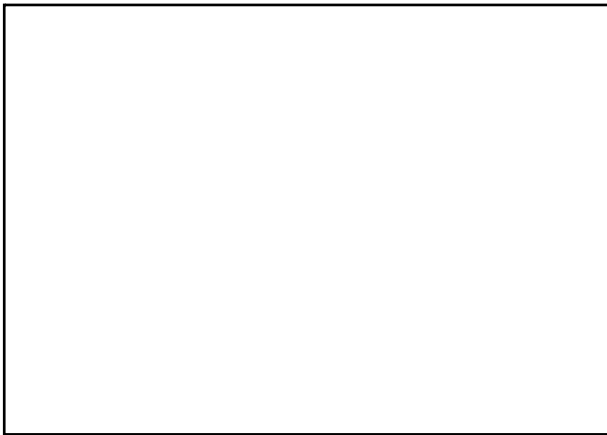

Fig. 2
- Unscrew the caps of the filler tube (3, Fig.2) and of the breather valve (2, Fig.2)
The breather valve (2, fig. 2) ensures the aeration and deaeration of the hydraulic reservoir if the hydraulic oil level fluctuates.